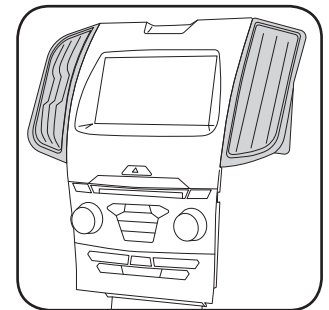

Fig. 3.6
6. Attach the climate vents on to the EDG2 assembly making sure the clips snap into place. (Fig. 3.6)